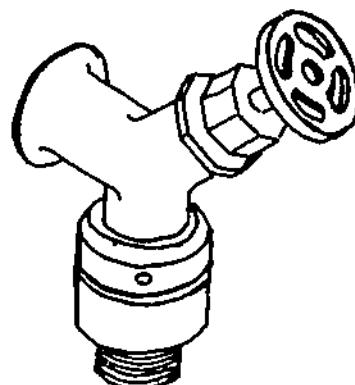

Figure 30-3. Atmospheric Vacuum Breaker, Style for Hose Bibb Application
- Double Check Valve Type (Figure 30-3).